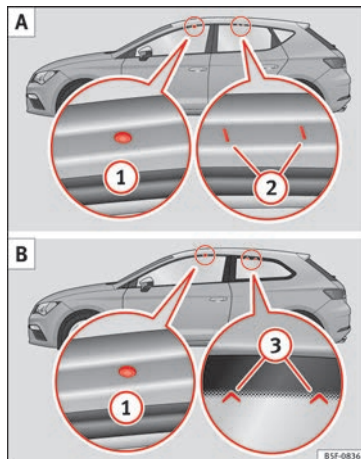

Fig. 187 Leon/Leon SC: attachment points for the roof railings for the roof carrier system.
The front and rear attachment points ① and ② are only visible when the doors are open »» Fig. 187 A.
rear attachment points ③ are marked on the top edge of the glass with arrow heads »» Fig. 187 B.